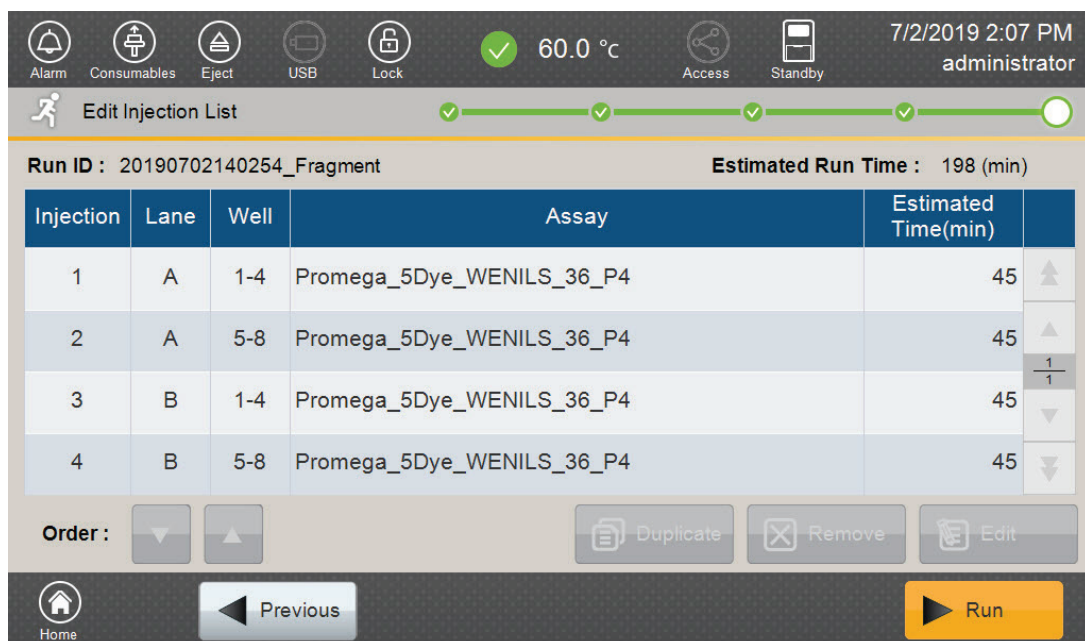

Figure 20. 'Edit Injection List' screen.
4. After the autosampler has returned to its home position, the 'Edit Injection List' screen will be displayed (Figure 20).